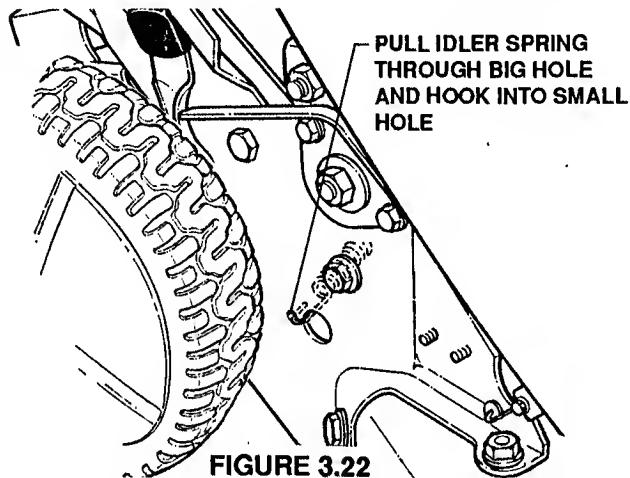

FIGURE 3.22
12. Hook spring end into small hole. See Figure 3.22.
5. Twist belt sideways and pull it upward between the differential bracket and drive pulley and then down into the pulley groove. Make sure poly-v belt is above belt guide. See Figure 3.22.